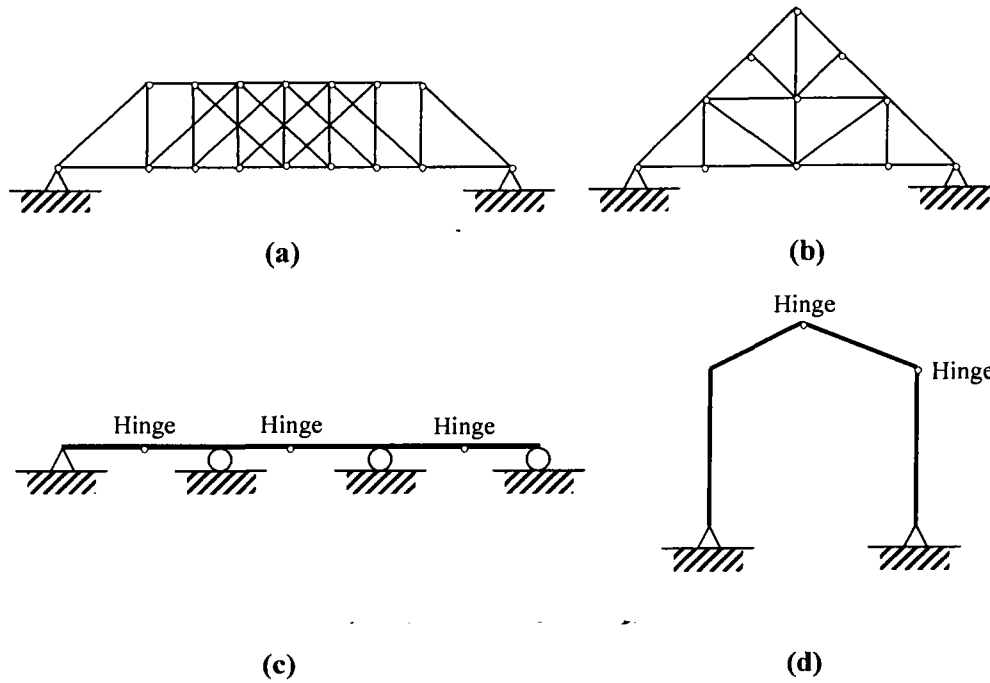

Figure 2 / Rajah 2
2. (a) For the structures shown in Figure 2(a) to (d), check their external and internal stability of the structures and specify the degree of determinacy if any.